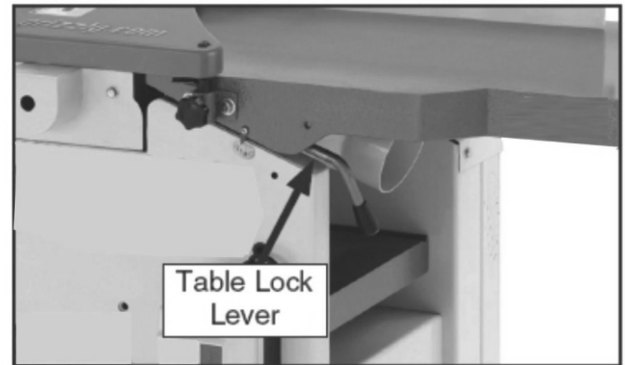

Figure 21. Infeed table lock lever.
5. Turn the table lock lever (**Figure 21**) clockwise, pull it out, and turn the table up. The table will lock into place when raised to its highest